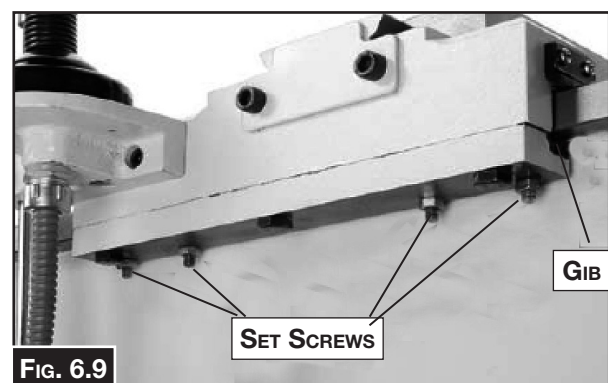

FIG. 6.9
1. Loosen the jam nuts on the four set screws (Fig. 6.9), and adjust the set screws.